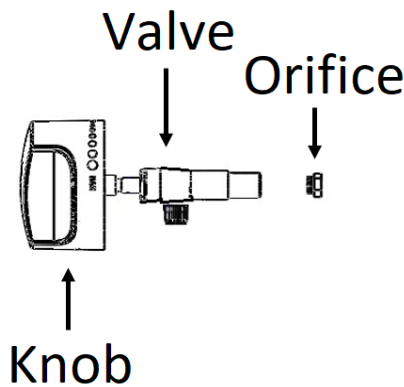

Fig. 1
1. Remove all propane burner orifices and install the provided natural burner orifices (Fig. 1).